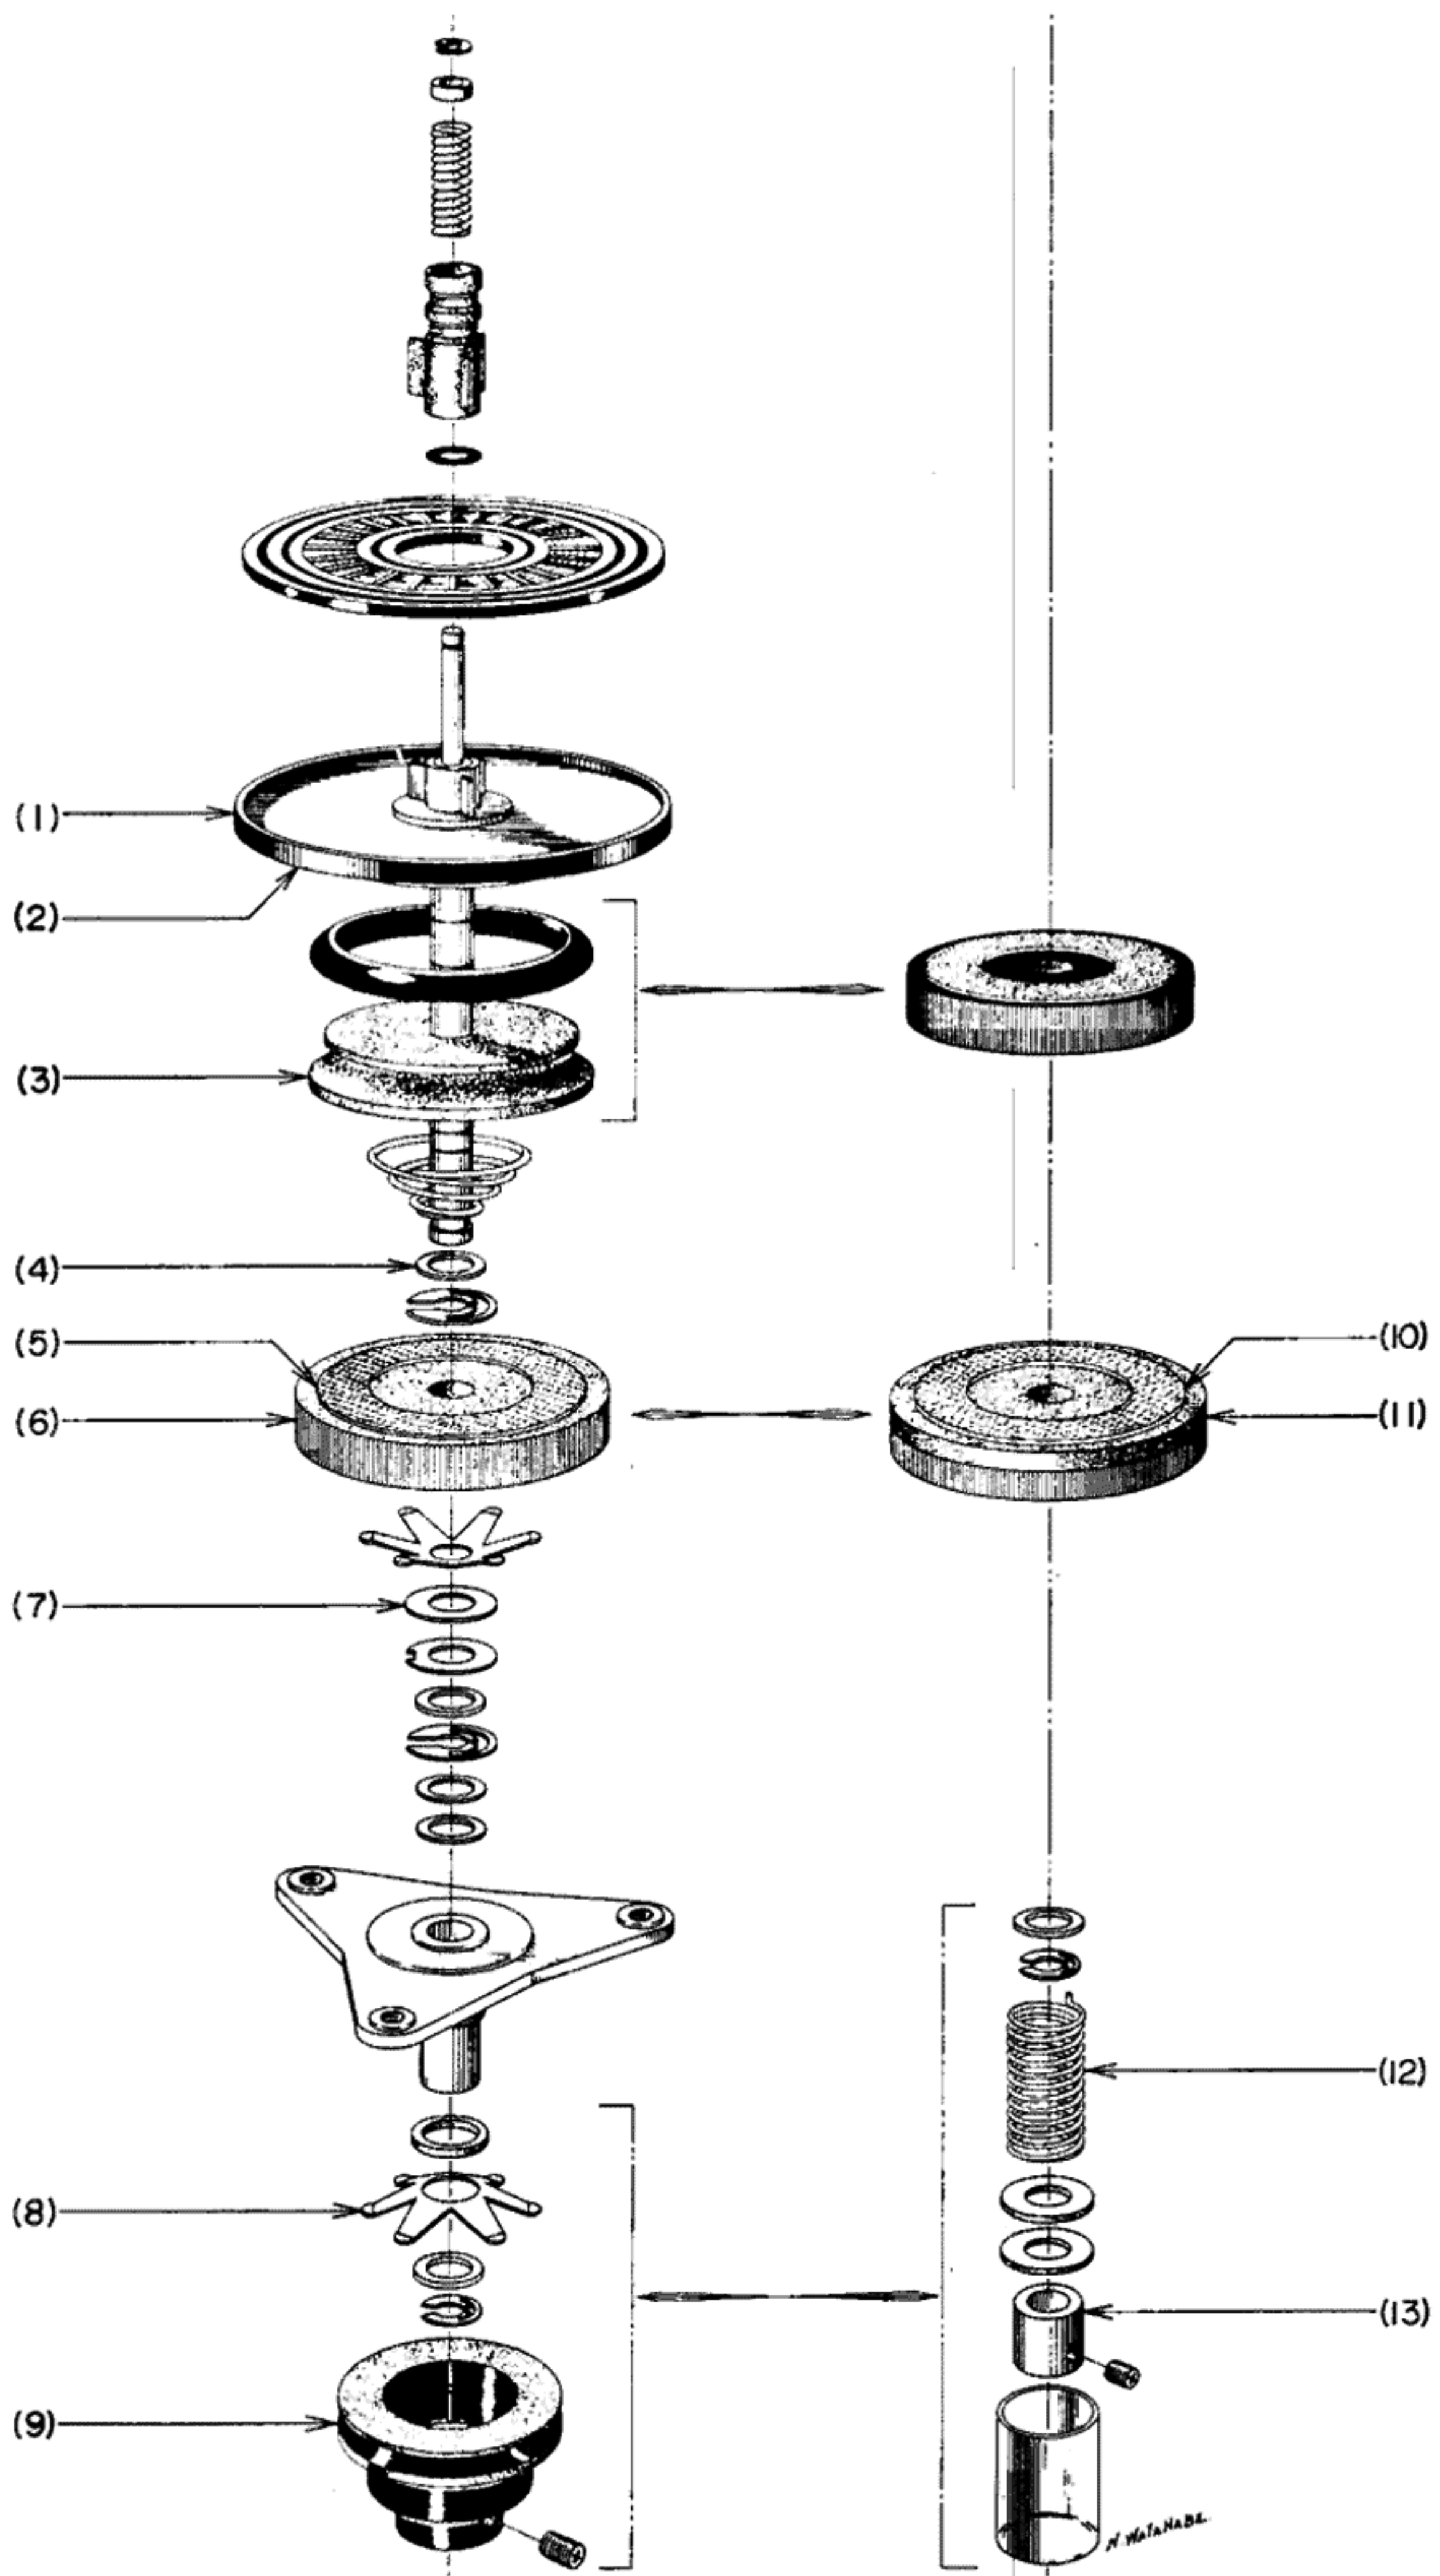

Fig. 10
2. SUPPLY REEL SHAFT ASSEMBLY ADJUSTMENT (See Fig. 10 at left)
3. TAKE-UP REEL SHAFT ASSEMBLY ADJUSTMENT (See Fig. 10 at right)